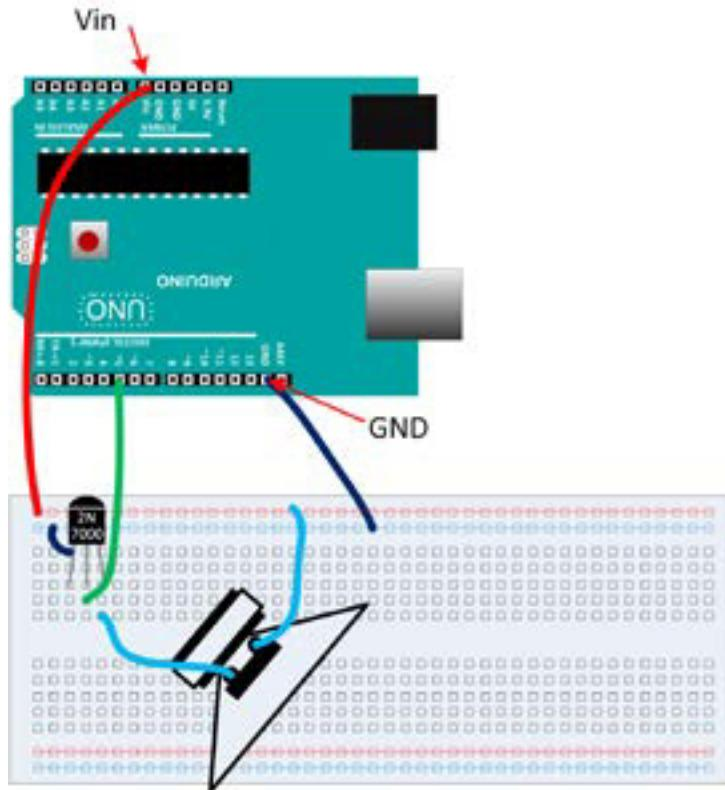

Figure HT5-5. Pictorial diagram for connecting Arduino™ to speaker
2. Wire the parts as shown in the Figure HT5-5.